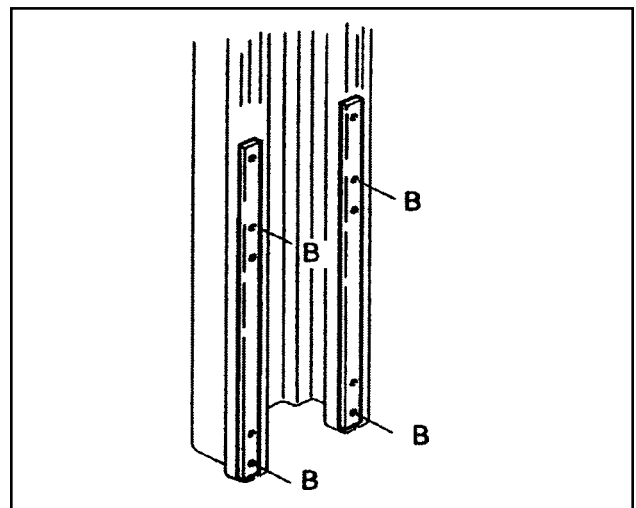

Figure 2-10 – Fasten the Column
6. Raise the column until the holes (**B**) align with the corresponding frame bracket holes. Take the two screws from the spare parts kit (four screws are required for each column), and fasten the column, as shown in Fig. 2-10.